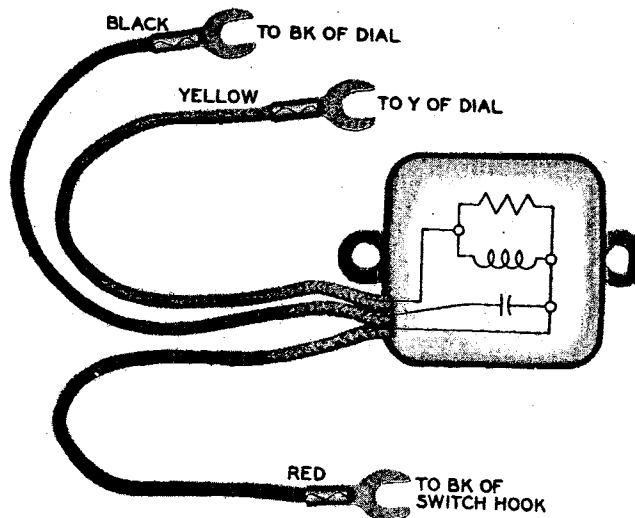

FIG. 7—61M FILTER CONNECTIONS
3.01 The 211-type set is arranged for, but not equipped with, a 61M filter for radio-frequency suppression. When this filter is required, remove the dial cord between Y of the dial and BK of the switchhook and connect filter as shown in Fig. 7.